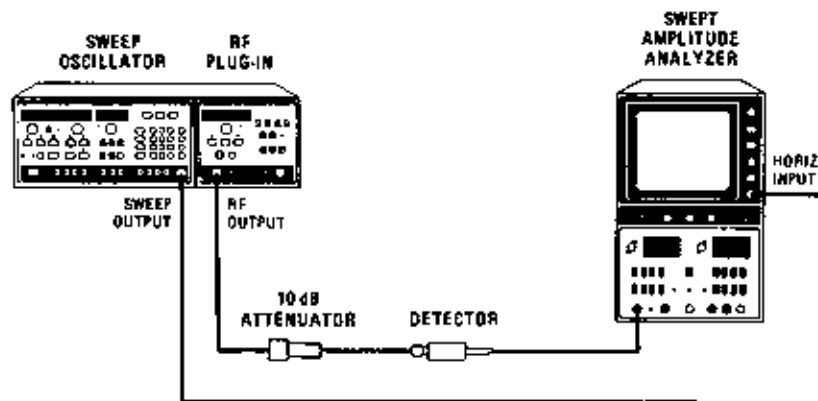

Figure 5-19. Internal Leveling Adjustment Setup
1. Reinstall the A5 FM Driver Assembly. Connect equipment as shown in Figure 5-19, with the 8755C monitoring the RF output. Select 8350A  $\square$  MOD . Sweep the full range of the plug-in.